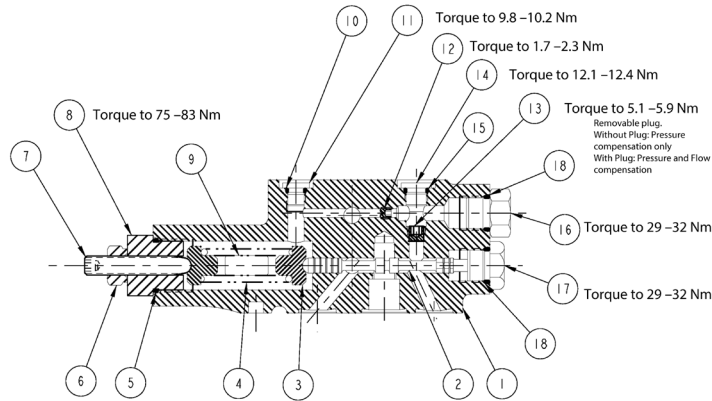

Figure 11
3. Remove the screw plug (Figure 11⑨⑩).
4. Remove the pressure valve core (Figure 11⑧).
5. Remove the assembly of the screw plug (Figure 11⑤), the adjusting rod (Figure 11④) and the lock nut (Figure 11⑧).
6. Remove the pressure compensator spring (Figure 11③) and the two spring seats (Figure 11②).
1. Install the pressure valve core (Figure 11⑧).
2. Install the screw plug (Figure 11⑨⑩) and tighten it with a torque ranging from 9.8 to 10.2 Nm.
3. Install the pressure compensator spring (Figure 11③) and the two spring seats (Figure 11②).
4. Install the assembly of the screw plug (Figure 11⑤), the adjusting rod (Figure 11④) and the lock nut (Figure 11⑧), and tighten the screw plug with a torque of 75 - 83 Nm.